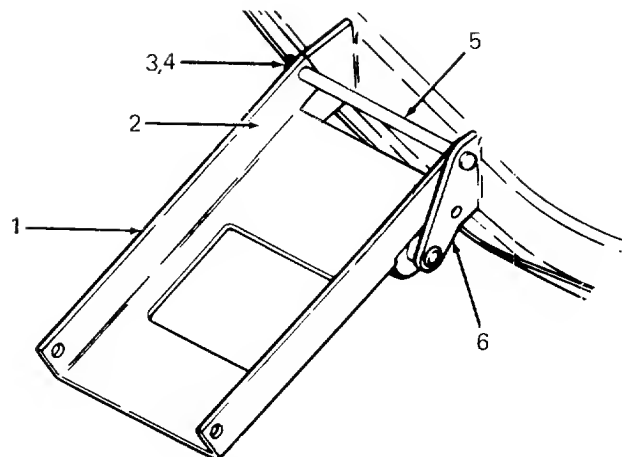

Figure 46
4. Refer to Figure 46 to determine the proper positioning of the front hanger assembly in relation to the tractor and deck. Note that when the front hanger assembly is properly positioned, the hanger extensions face the rear of the tractor, and the top of the front hanger assembly is open. Attach the rear of the front hanger assembly to the top hole of the front roller bracket using the deck hanger rod. Secure the rod to the bracket using a flat washer and hairpin cotter.